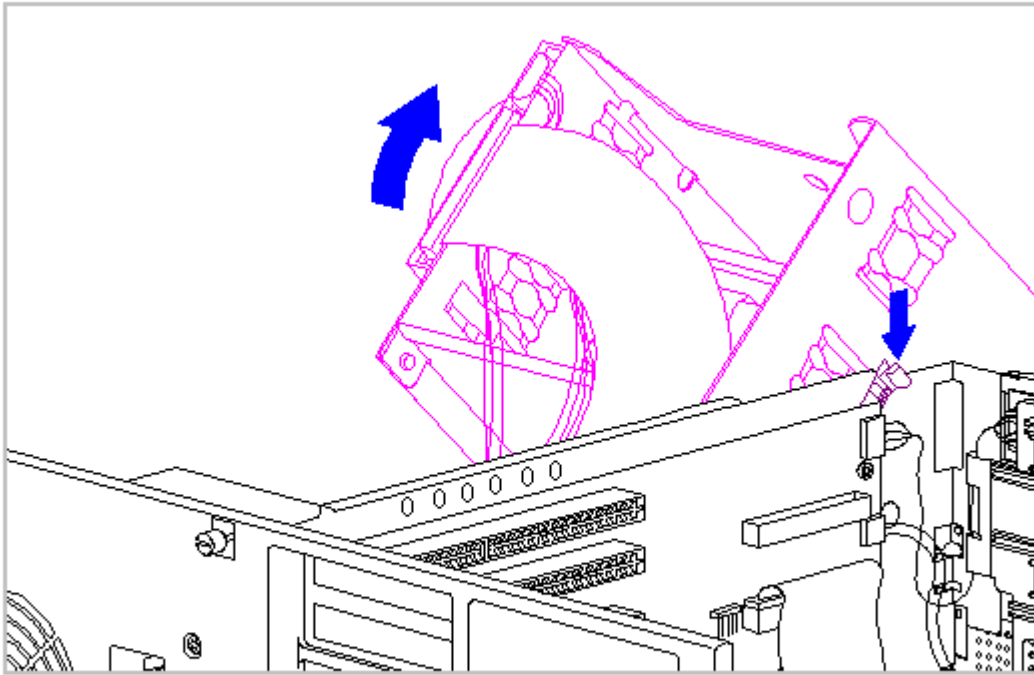

Figure 5-13. Elevating the Drive Cage
6. Elevating the drive cage will provide access to the drive cable connectors and power switch cable clamps on the floor of the chassis. Push the metal drive cage release (Figure 5-13) away from the drive cage and elevate the back end of the drive cage. The drive cage release will engage a cutout in the side of the drive cage when it has been elevated the proper amount (Figure 5-13).
4. Elevating the drive cage will provide access to the drive cable connectors. Push the metal drive cage release (Figure 5-13) away from the drive cage and elevate the back end of the drive cage. The drive cage release will engage a cutout in the side of the drive cage when the drive cage has been elevated the proper amount (Figure 5-13).